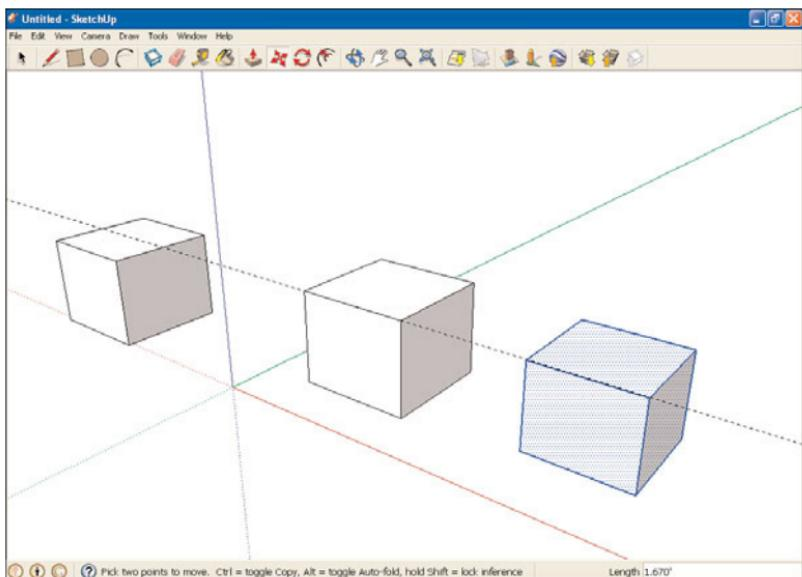

FIGURE 9.17 Aligning a cube.
15. Move the cube into alignment with the guide, as shown in Figure 9.17.